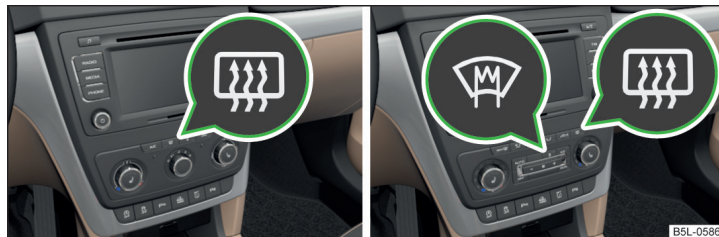

Fig. 56 Buttons for the rear and front window heating: manual air conditioning/Climatronic
**Buttons for the heating in the centre console (depending on vehicle equipment) » Fig. 56**